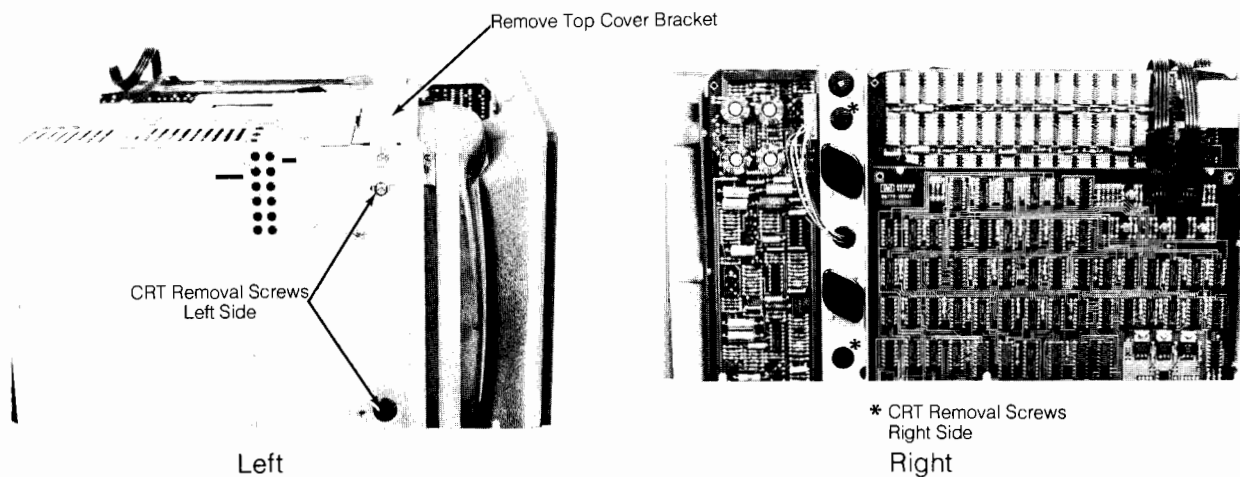

Figure 5-8. CRT Assembly Removal Screws
- Remove the metal strip (used to hold the top cover on) from the top of the CRT (see top cover bracket in Figure 5-8).
- Remove the two screws on either side of the 98770A that hold the CRT assembly to the chassis (refer to Figure 5-8).